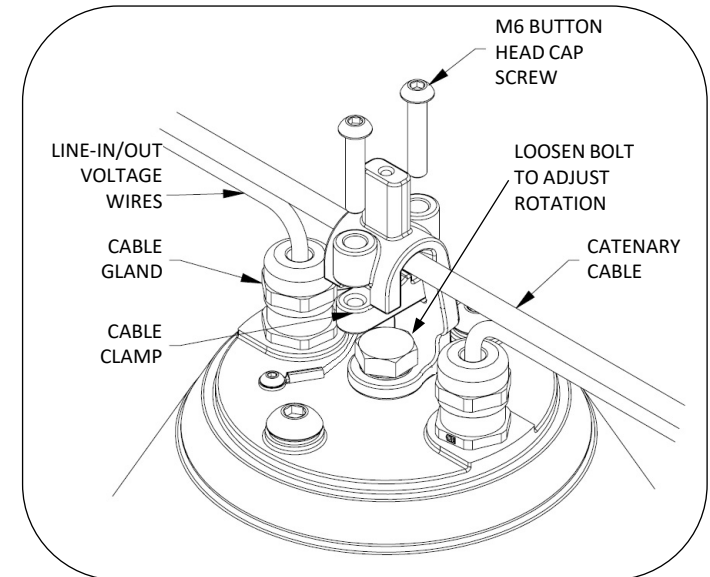

Fig. 2 – REMOVE CABLE CLAMP
3. Remove two screws to remove the cabling block, see Fig. 2. Run catenary cable under hook and reattach cabling block.